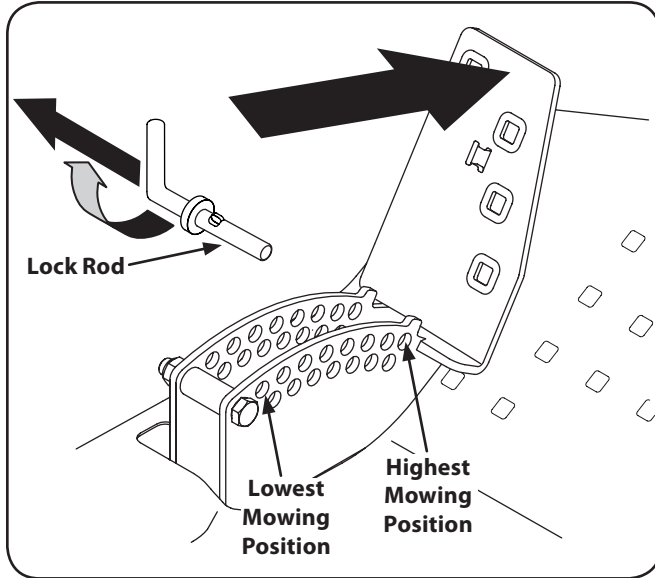

Figure 7-3
2. Remove the lock rod by pressing the pedal forward to release tension then rotate the lock rod until the end of the rod points upward and slide it out of the deck height bracket. See Figure 7-3.
1. Place the deck lift pedal in the highest mowing position and secure it by placing the lock rod behind the pedal. See Figure 7-3.